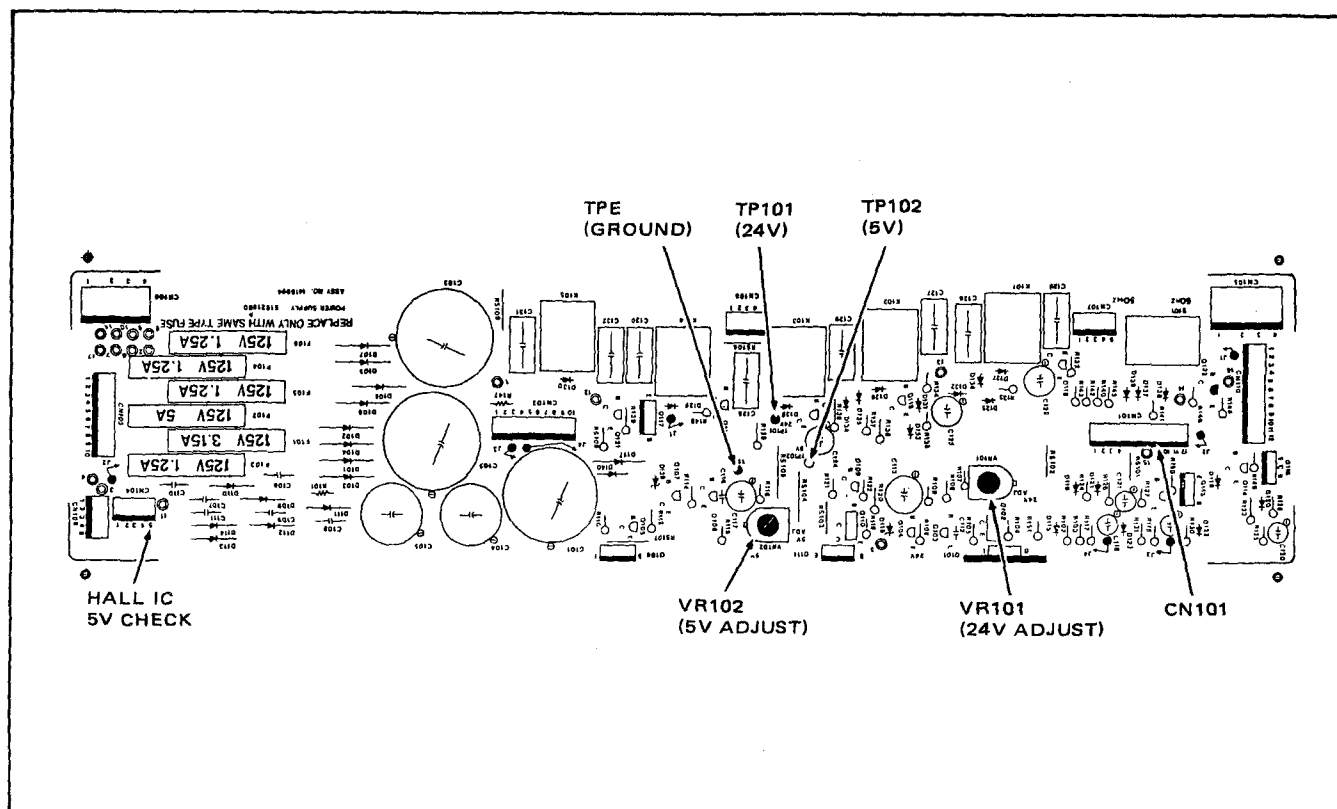
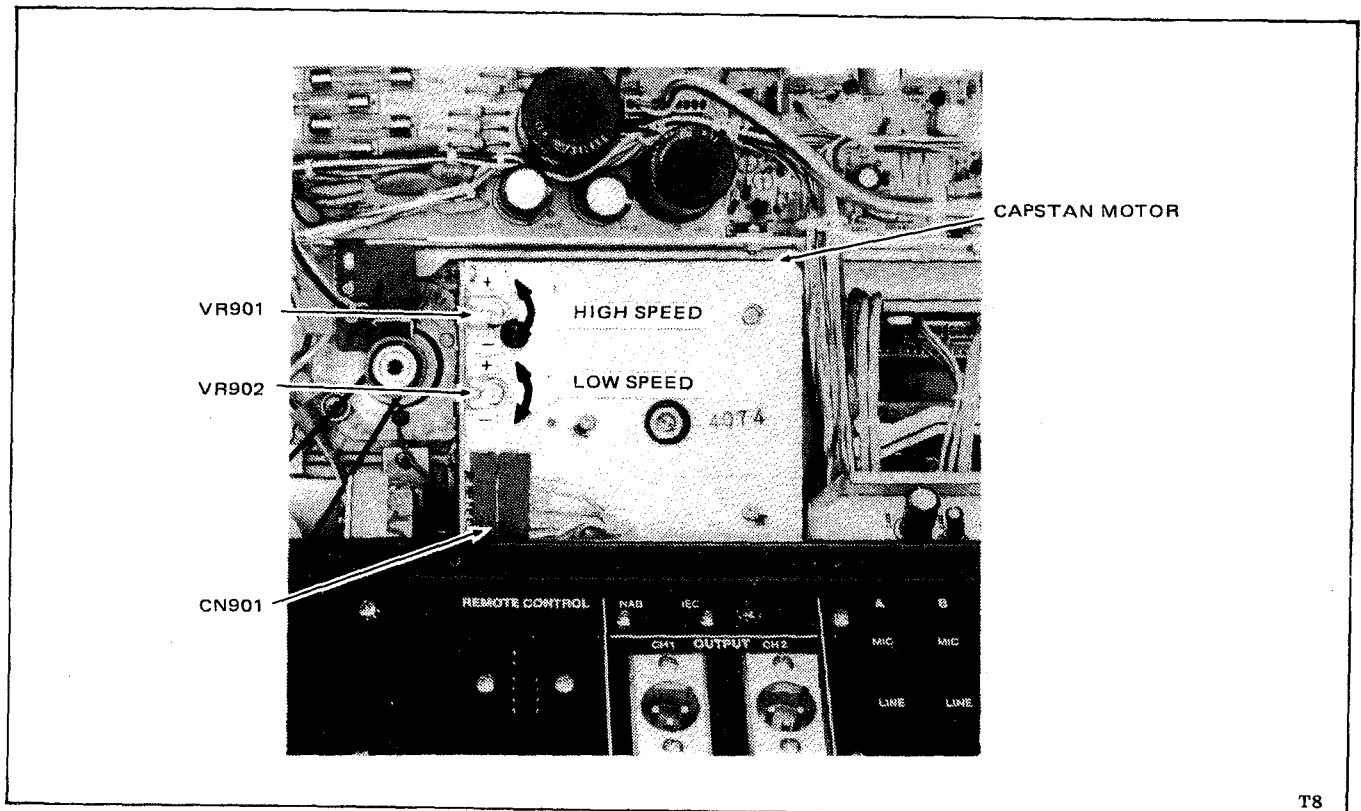

Figure 5-18. DC Voltage Adjustment, Power Supply PWA
Figure 5-19. Tape Speed Adjustments
2. Through the rear of the deck, unplug Control Board Connector CN101 (Figure 5-18) and Capstan Motor Connector CN901 (Figure 5-19).
4. Refer to Figure 5-18 and connect vtvm between TP101 (+) and TPE (PWA ground).
- a. Locate the speed adjustment resistors on the capstan motor (see Figure 5-19).